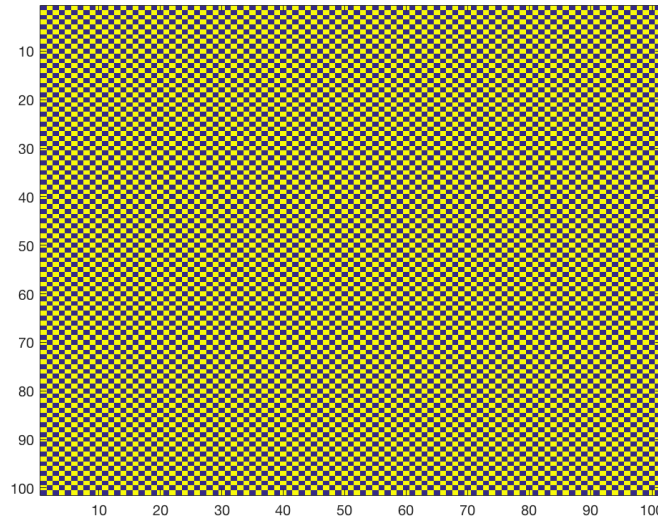

Figure 6: OBSERVED PATTERN
3. Currently, I suspect the cause of this uniform pattern to be the bayer pattern of the color image. This can be seen from Fig. 6.